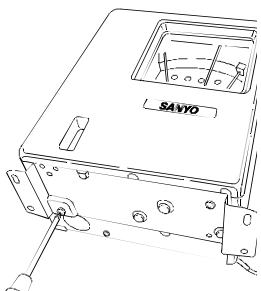

Fig. 1
Follow the procedure below at the time of replacement of the lamp. The lamp is located at the upper front side of refrigerator chamber. (Fig. 1)
1. Attach the fixture to the temperature recorder (MTR-0620LH) by referring to the instruction manual enclosed with the recorder. (Fig. 1)